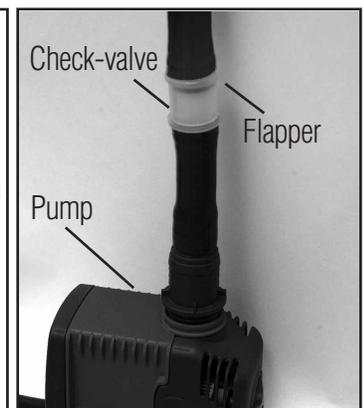

Figure 2
**3. Connecting the Check Valve** Use 1/2” I.D. hose to connect the check valve vertically in the water feed line as shown in Figure 2. Be sure to use the correct diameter hose so that the check valve fits snugly in the hose. The check valve should be located as close as possible to the pump and it should be positioned vertically. Note that the check valve must be oriented so that the flapper is in the upper position.